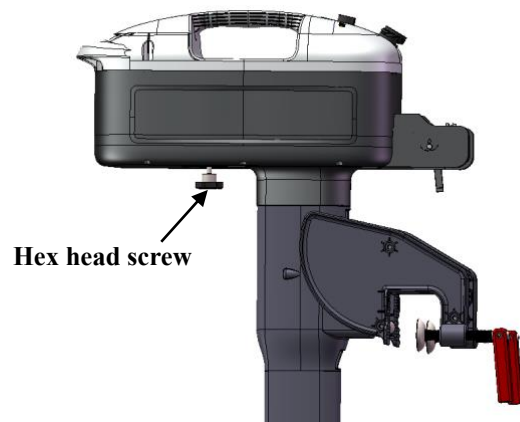

Figure 2-4
2. Rotate the **hex head screw** of **Battery base** at the bottom until the **battery** is fixed in a horizontal position. Refer to Figure 2-4.